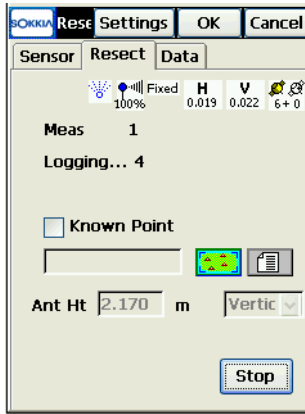

Figure A-5. Measure Point
When the sensor receives the transmitter's beam, the mmGPS icon displays (Figure A-5).
During the measurement, the *Resect* tab displays the number of GPS epochs used in the resection calculation (Figure A-5).
6. When the desired amount of time has passed, tap the **Stop** button (Figure A-5).